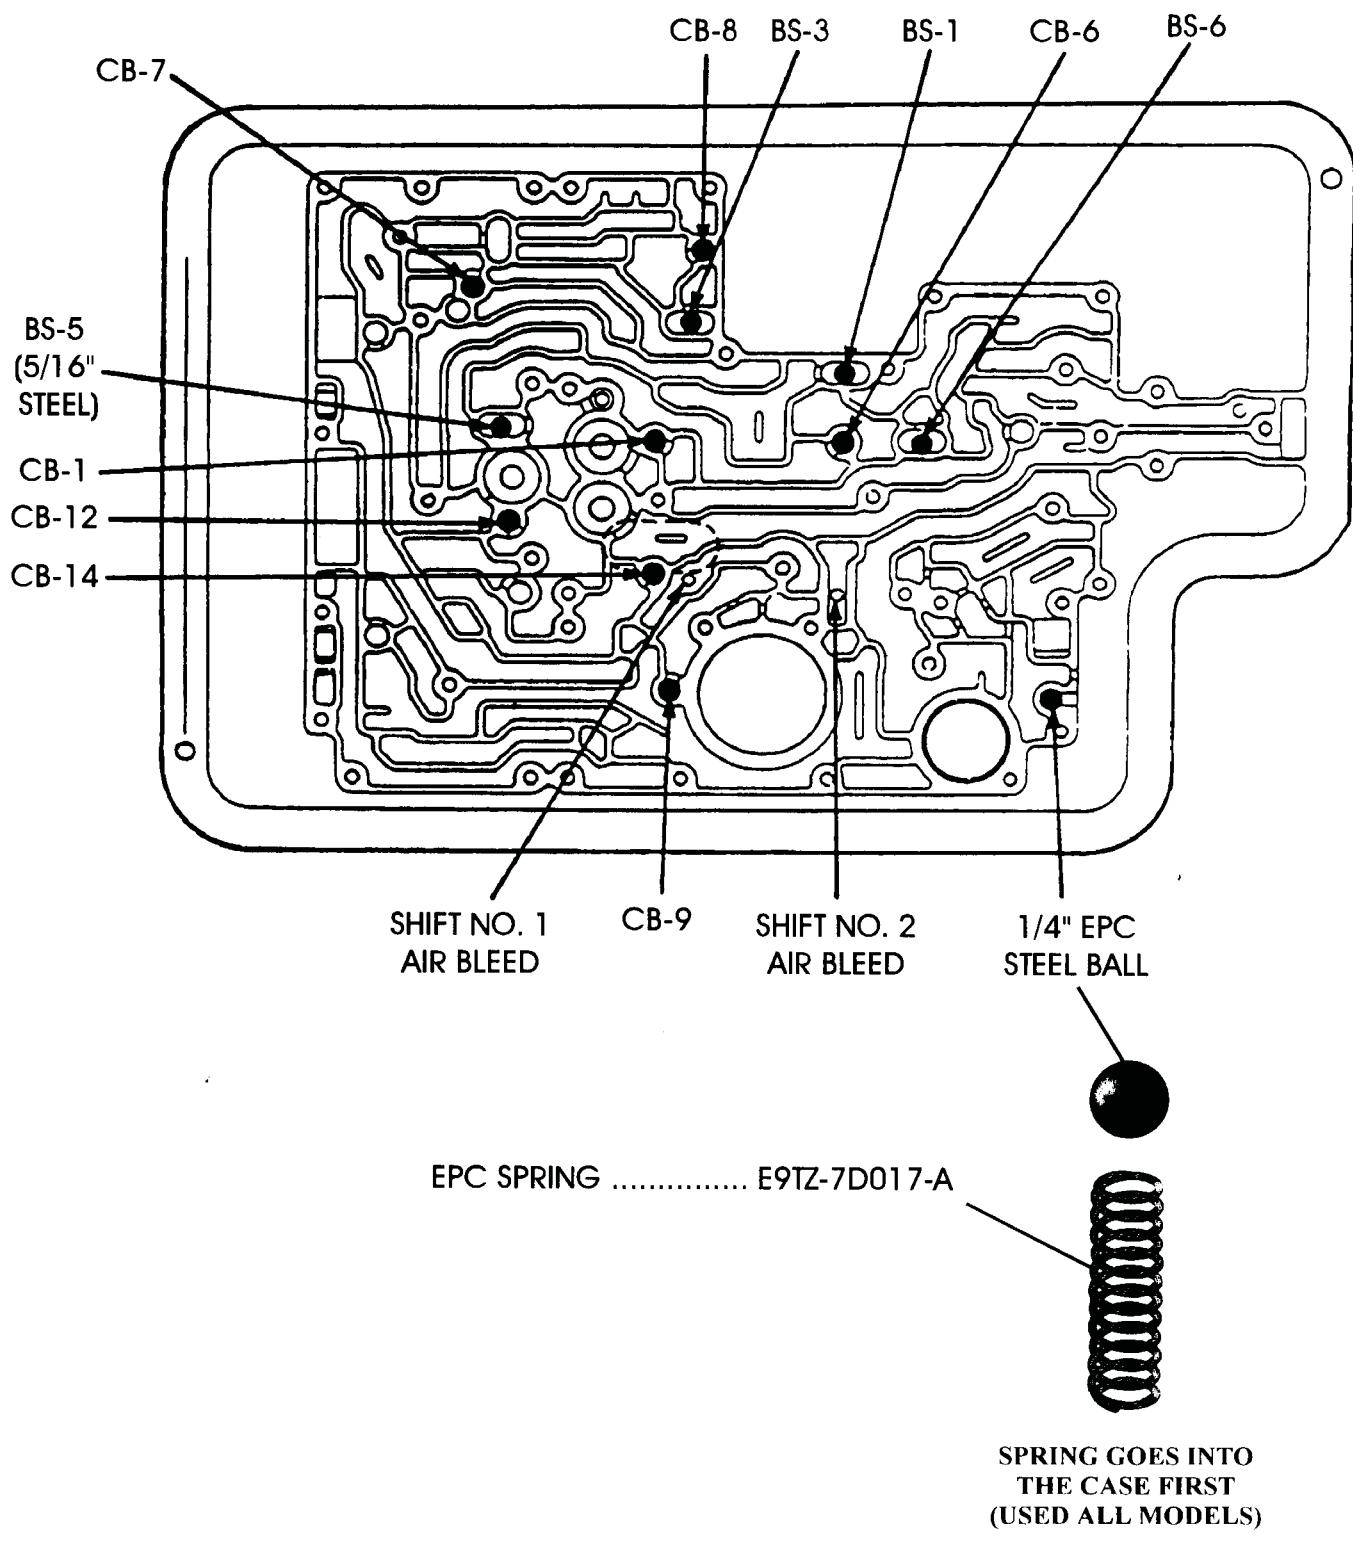

Figure 4
*Late 1989 Models* - Requires **Ten** 5/16" rubber checkballs, and **One** 5/16" diameter steel checkball, for a total of **Eleven**, in the locations shown in Figure 4, and uses a 1/4" steel ball for the EPC blow-off, and the location is shown in Figure 4.